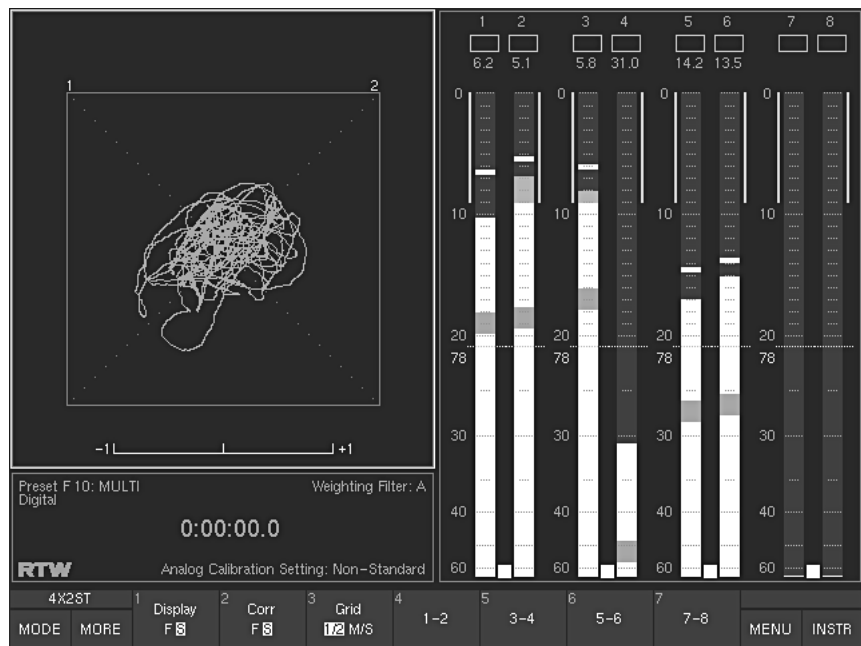

Fig. 5-15: The Audio Vectorscope instrument (VSC) in Multi-Channel mode
(Button/key 1, see Fig. 5-15)
(Button/key 2, see Fig. 5-15)
(Button/key 3, see Fig. 5-15)
(Buttons/keys 4 to 7, see Fig. 5-15)